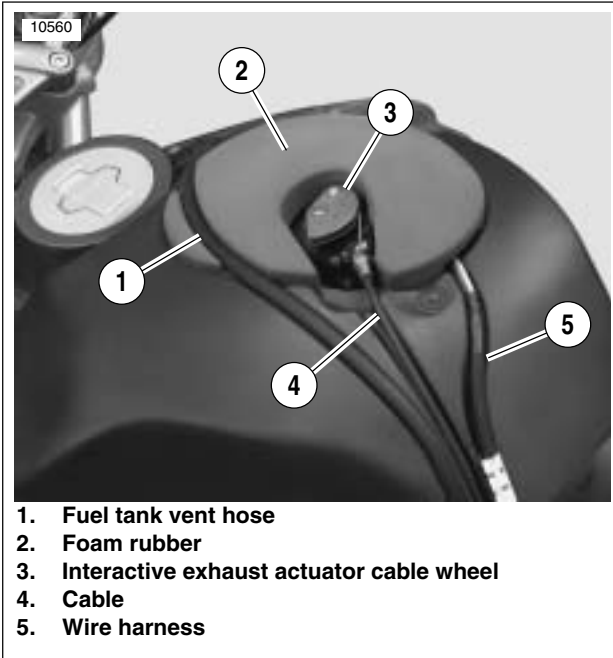

Figure 7-91. Interactive Exhaust Installation
2. See Figure 7-91. If installing actuator:
- a. Attach interactive exhaust cable (4) to cable wheel (3) on actuator.
- b. Install foam rubber isolator (2) and actuator and fuel tank vent hose (1).
- c. Adjust cable (4). See 1.18 INTERACTIVE EXHAUST CABLE\(XB12 MODELS ONLY\).